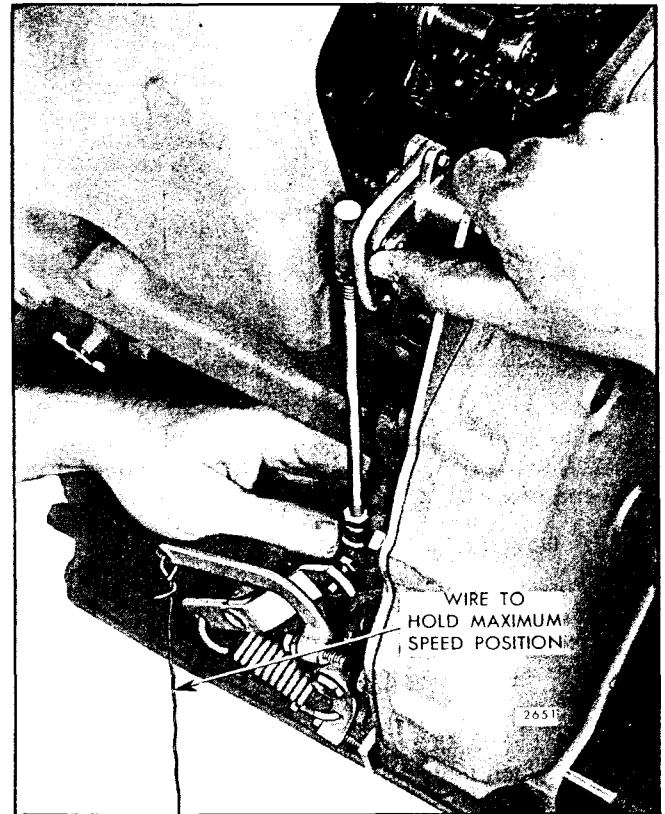

Fig. 2 - Adjusting the throttle rod
2. Hold the injector control racks in the full-fuel position; then adjust the length of the throttle rod, by turning the ball and socket on the rod, until it can be connected to the rocker shaft lever (Fig. 2).